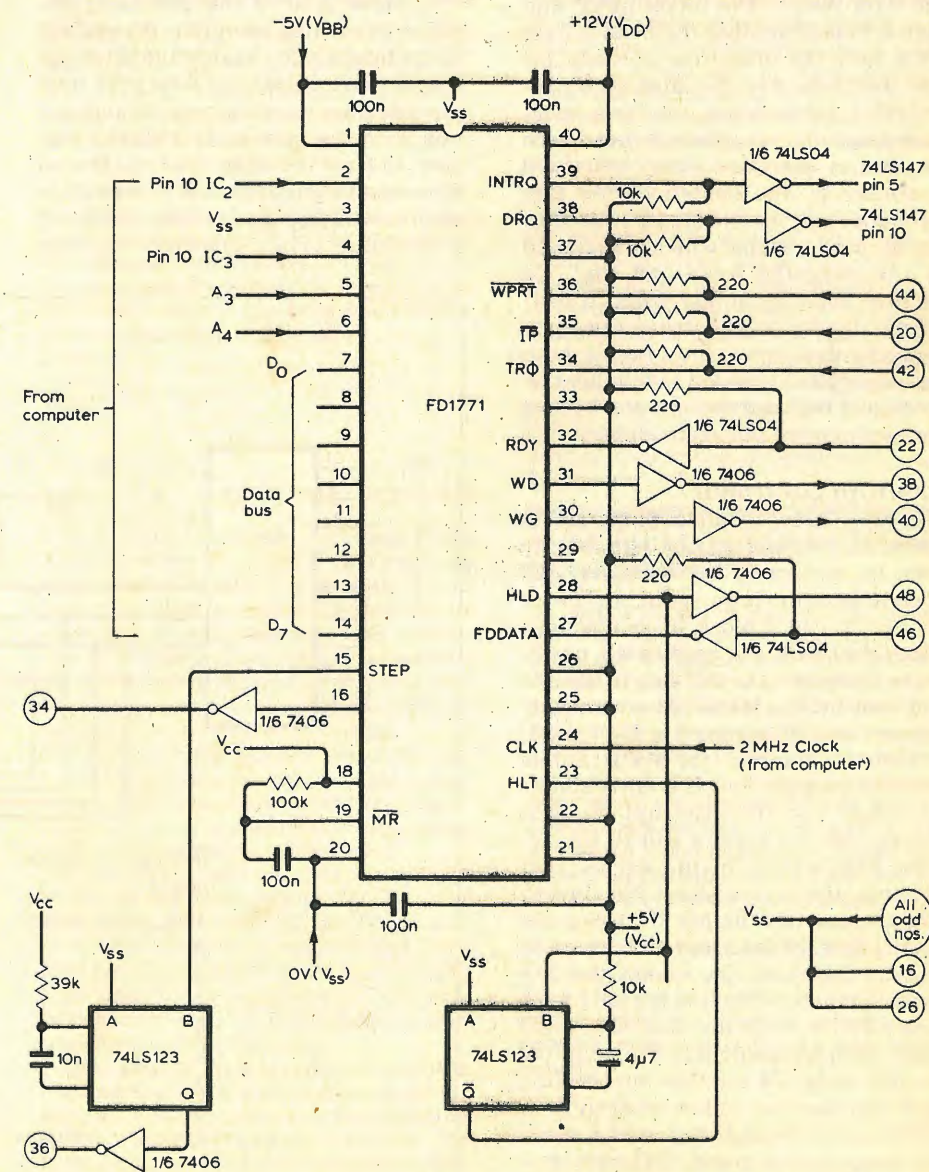

Fig. 2. Floppy-disc controller/formatter.
To the computer, the controller looks like four input and four output ports. However, to address the controller, the computer only needs to supply one line each from IC₂ and IC₃, (the computer's input and output-port decoders) along with address lines A₃ and A₄ as shown in Fig. 2. Because neither of the address lines go to the decoding i.c.s, they take no part in decoding the 8-bit port addresses which the Z80 sends along the bottom eight address lines during I/O instructions. Therefore, I/O commands such as IN(05), IN(0D), IN(15) and IN(1D) will activate the same line from IC₂, the bottom three bits of each number being the same, 101, but each provides a different combination on A₃ and A₄. By connecting the IN line to the controller's RE (read enable) input, and the two address lines to the A₀ and A₁ inputs, all four controller registers may be read by the computer. In a similar fashion, one line from IC₃ drives the WE (write enable) line of the controller, which allows the computer to write information into any of the registers. For details of these see Table 2.